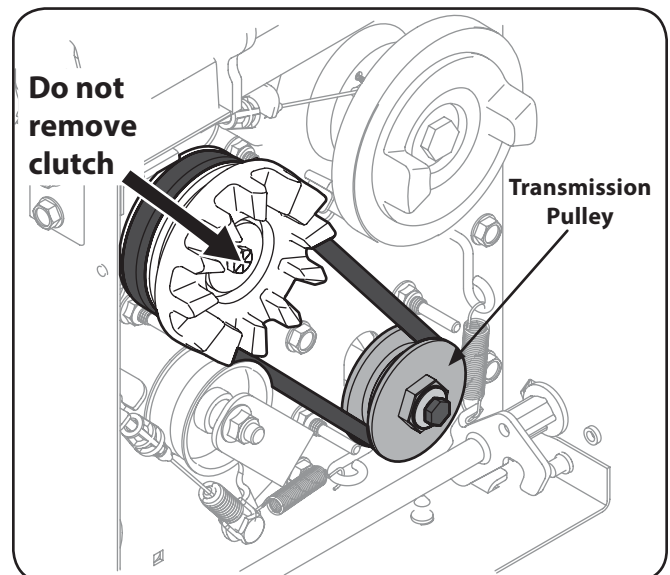

Figure 6-11
4. Using a larger adjustable wrench, or a 1" wrench, to hold the transmission pulley from turning, remove the hex bolt securing that pulley. Pull the front half of the transmission pulley off fully exposing the drive belt. See Figure 6-11.